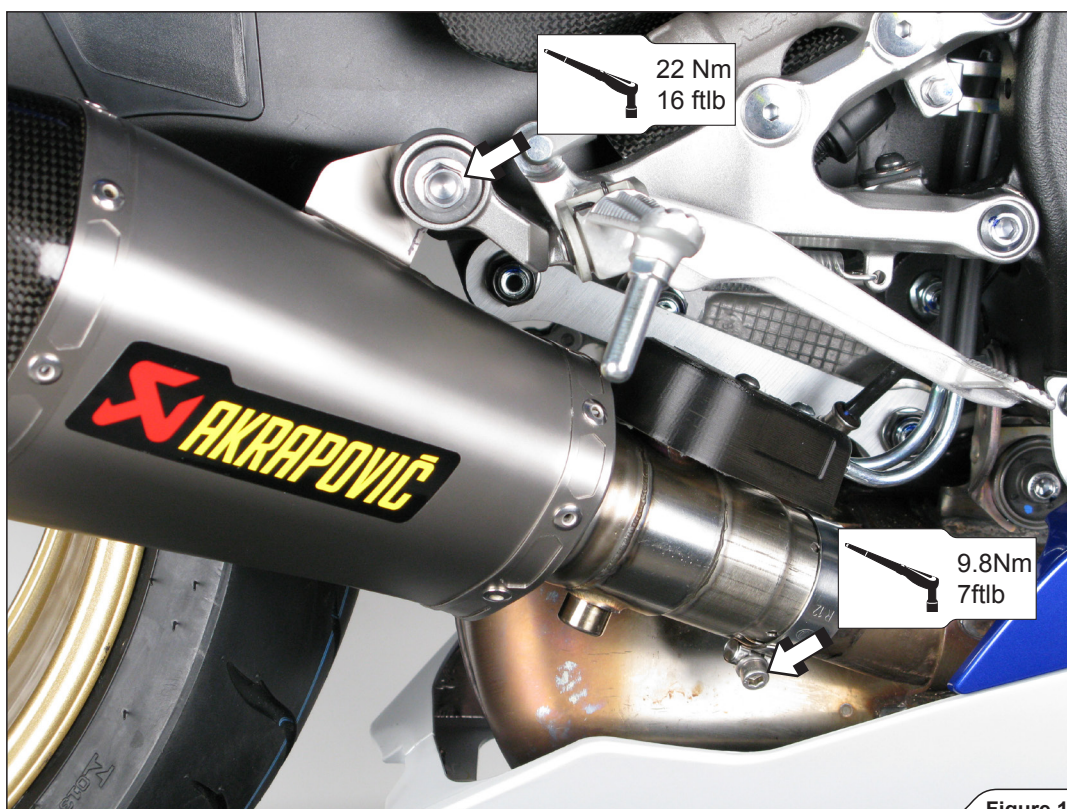

Figure 14
6. Align the muffler in respect to the motorcycle. Tighten the muffler bracket (using stock bolt with washer) and metal muffler inlet clamp (Figure 14).